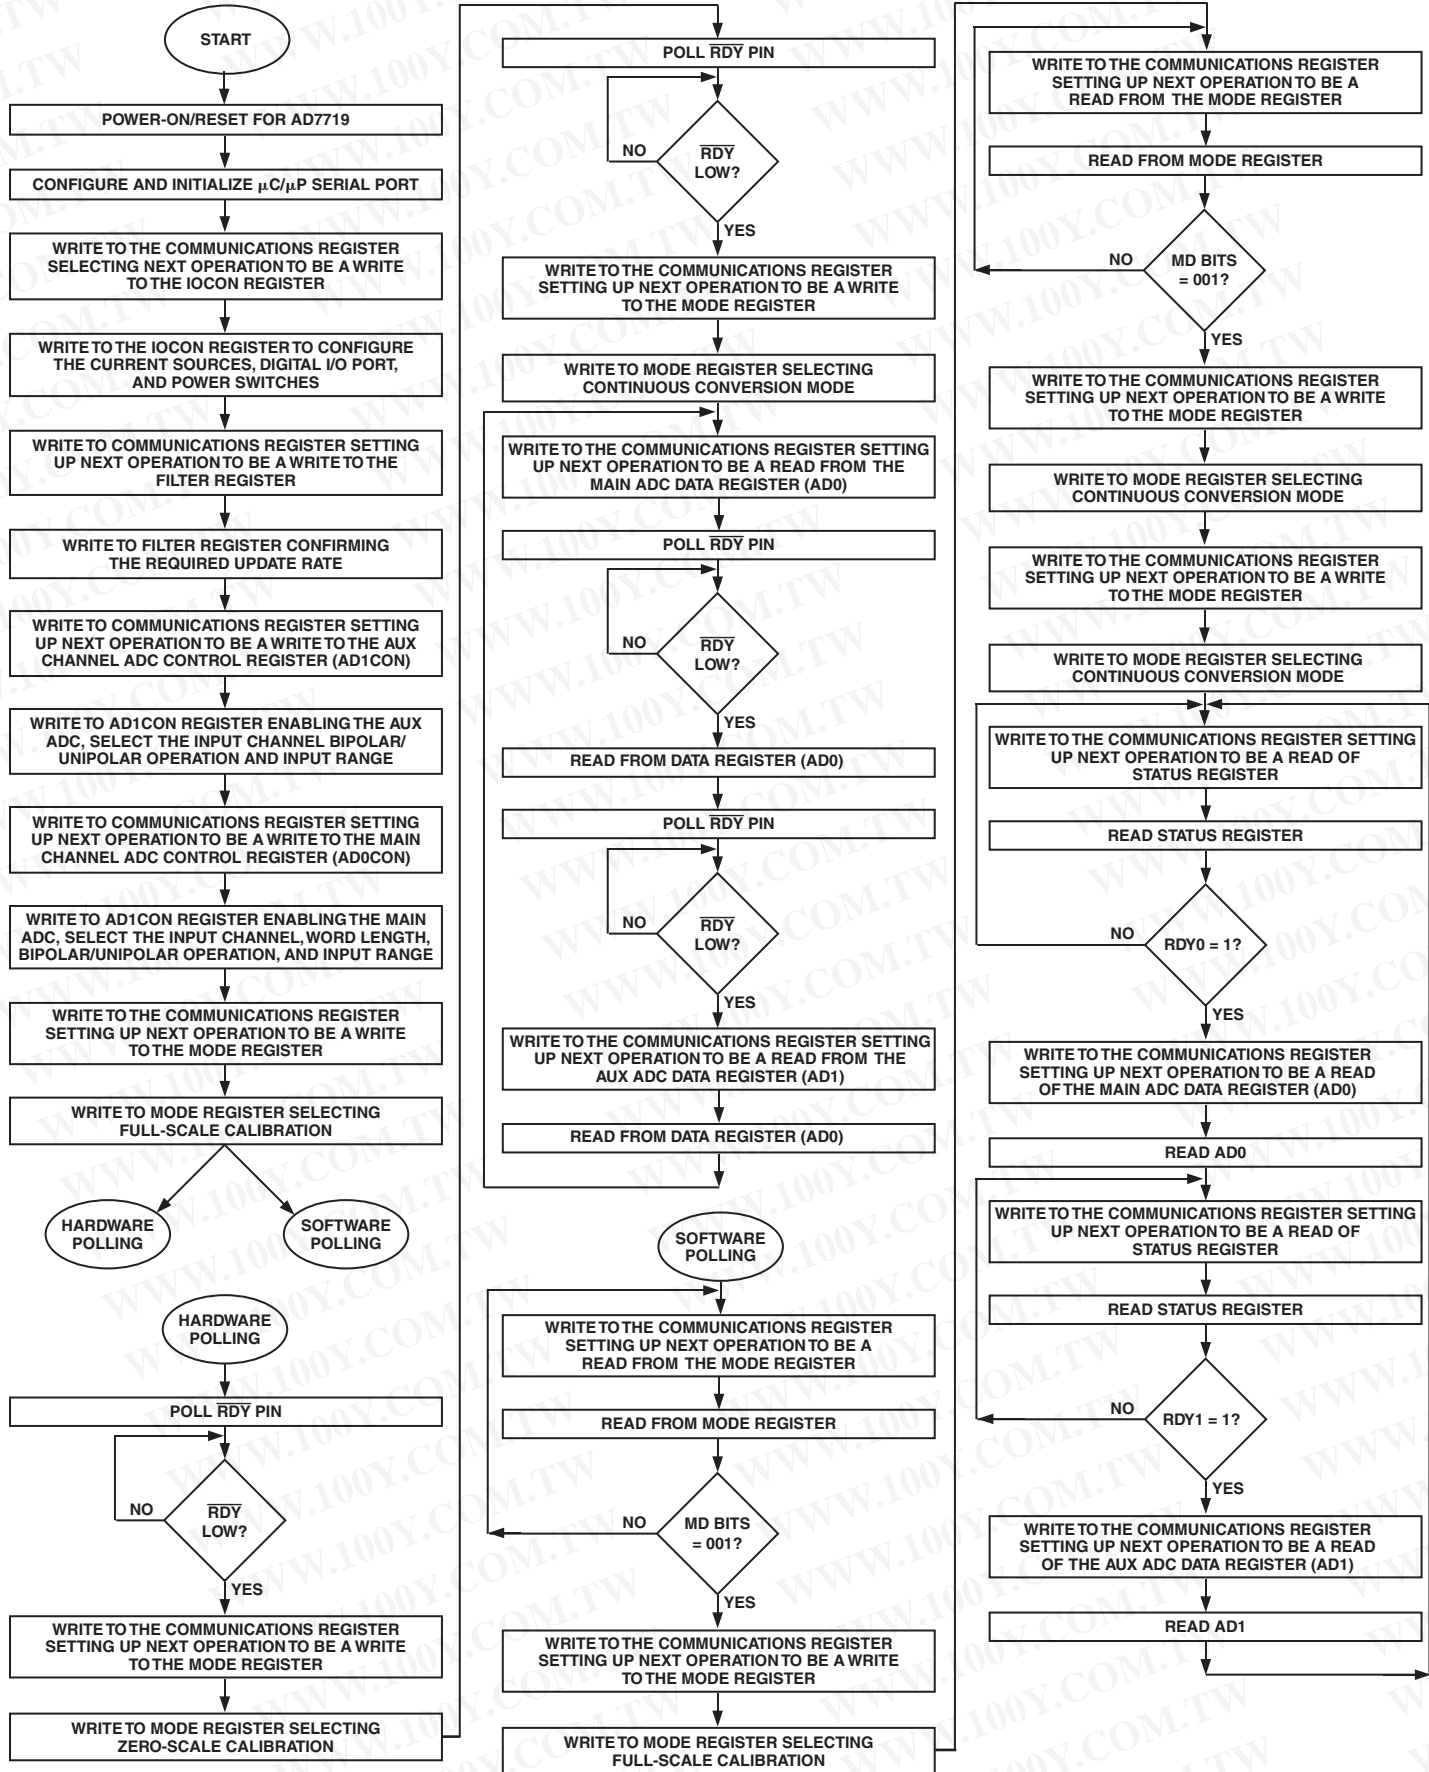
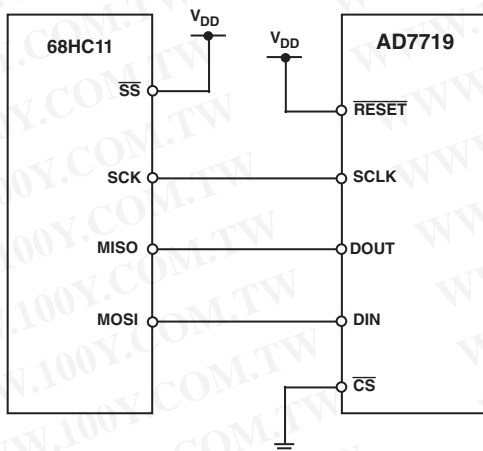

Figure 11. Flowchart for Initializing, Calibrating, and Reading Data from the AD7719 Main and Aux Channels
Figure 12. AD7719-to-68HC11 Interface
Figure 11 outlines a flow diagram of the sequence used to configure all registers after a power-up or reset on the AD7719. The flowchart shows two methods of determining when it is valid to read the data register or determine when a calibration cycle is complete. The first method is hardware polling of the  $\overline{\text{RDY}}$  pin and the second method involves software interrogation of bits in the status and mode registers. The flowchart details all the necessary programming steps required to initialize the ADC and read data from the main and aux channel following a power-on or reset. The steps can be broken down as follows:
3. When the operating mode is selected, the user needs to determine when it is valid to read the data in conversion mode or when the calibration is complete in calibration mode. This is accomplished either by polling the  $\overline{\text{RDY}}$  pin (hardware polling) or by interrogating the bits in either the Status or Mode registers (software polling). Both are shown in Figure 11. It is assumed that both the main and aux ADCs are being used and calibration is required. If the AD7719 is operated at the factory-calibrated conditions, a field calibration will not be required and these steps can be bypassed.
The AD7719's flexible serial interface allows for easy interface to most microcomputers and microprocessors. The flowchart of Figure 11 outlines the sequence that should be followed when interfacing a microcontroller or microprocessor to the AD7719. Figures 12, 13, and 14 show some typical interface circuits.
Figure 12 shows an interface between the AD7719 and the 68HC11 microcontroller. The diagram shows the minimum (3-wire) interface with  $\overline{CS}$  on the AD7719 hardwired low. In this scheme, the RDY bits of the Status register are monitored to determine when the Data register is updated. RDY0 indicates the status of the main ADC channel while RDY1 indicates the status of the aux channel. An alternative scheme, which increases the number of interface lines to four, is to monitor the  $\overline{RDY}$  output line from the AD7719. The monitoring of the  $\overline{RDY}$  line can be done in two ways. First,  $\overline{RDY}$  can be connected to one of the 68HC11's port bits (such as PC0), which is configured as an input. This port bit is then polled to determine the status of RDY. The second scheme is to use an interrupt driven system, in which case the  $\overline{RDY}$  output is connected to the IRQ input of the 68HC11. For interfaces that require control of the  $\overline{CS}$  input on the AD7719, one of the port bits of the 68HC11 (such as PC1) that is configured as an output, can be used to drive the  $\overline{CS}$  input.